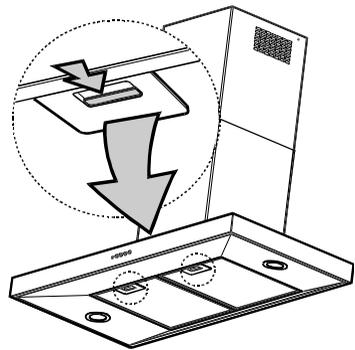

Bild 3
- First, push the metal grease filter stop backwards, then extract the filter, pulling downwards. **Fig. 3.**